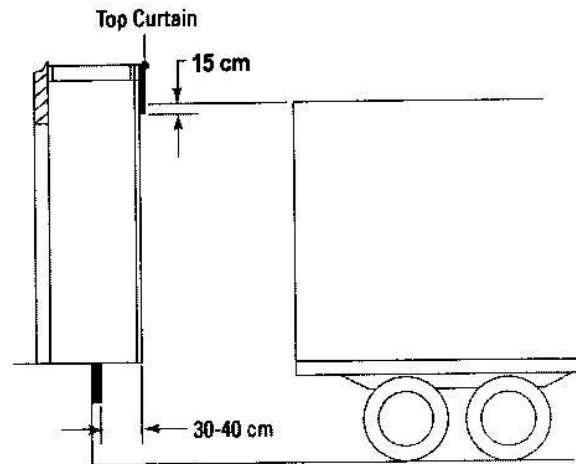

Fig. 50
- ? Set the bottom edge of the top curtain 15 cm below the height of the typical truck serving the facility (Fig. 50).
- ? Design shelters to project 30 cm to 40 cm in front of the dock bumpers (Fig. 50). For shelters wider than 3.6 m, increase the shelter projection by 1 cm over the minimum recommendation for every 2 cm of additional shelter width.